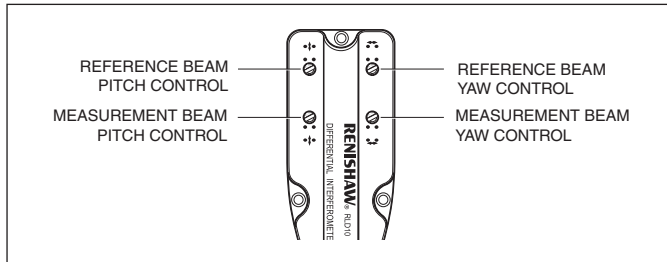

Figure 46 – Pitch and yaw controls
4. Referring to Figure 46, using a suitable screwdriver, use the reference and measurement beam yaw controls to move the beams so that they are visible on the 45° slope at the left-hand side of the alignment aid.